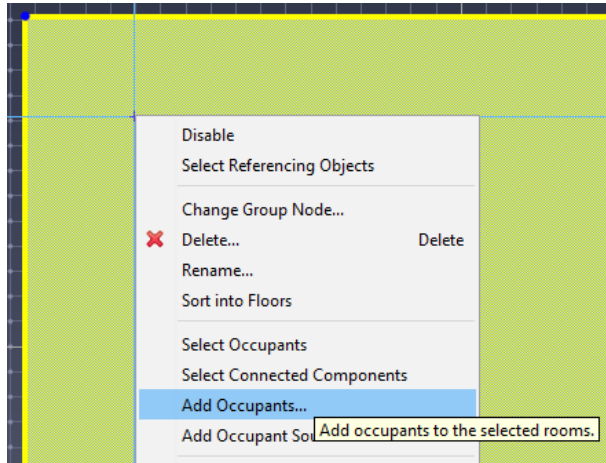
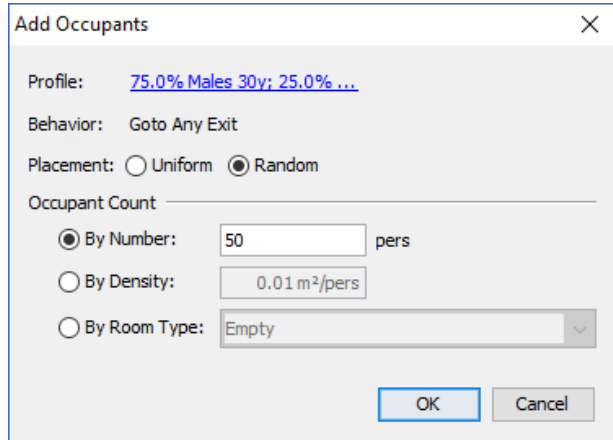

Figure 104. Add occupants in context menu
Figure 105. Add occupants dialog
1. Select the desired rooms and choose **Add Occupants** from the **Model** menu or the right-click menu as shown in Figure 104. This will bring up the Add Occupants dialog (Figure 105). For an explanation of the dialog's options, please see Section 5.4.2.